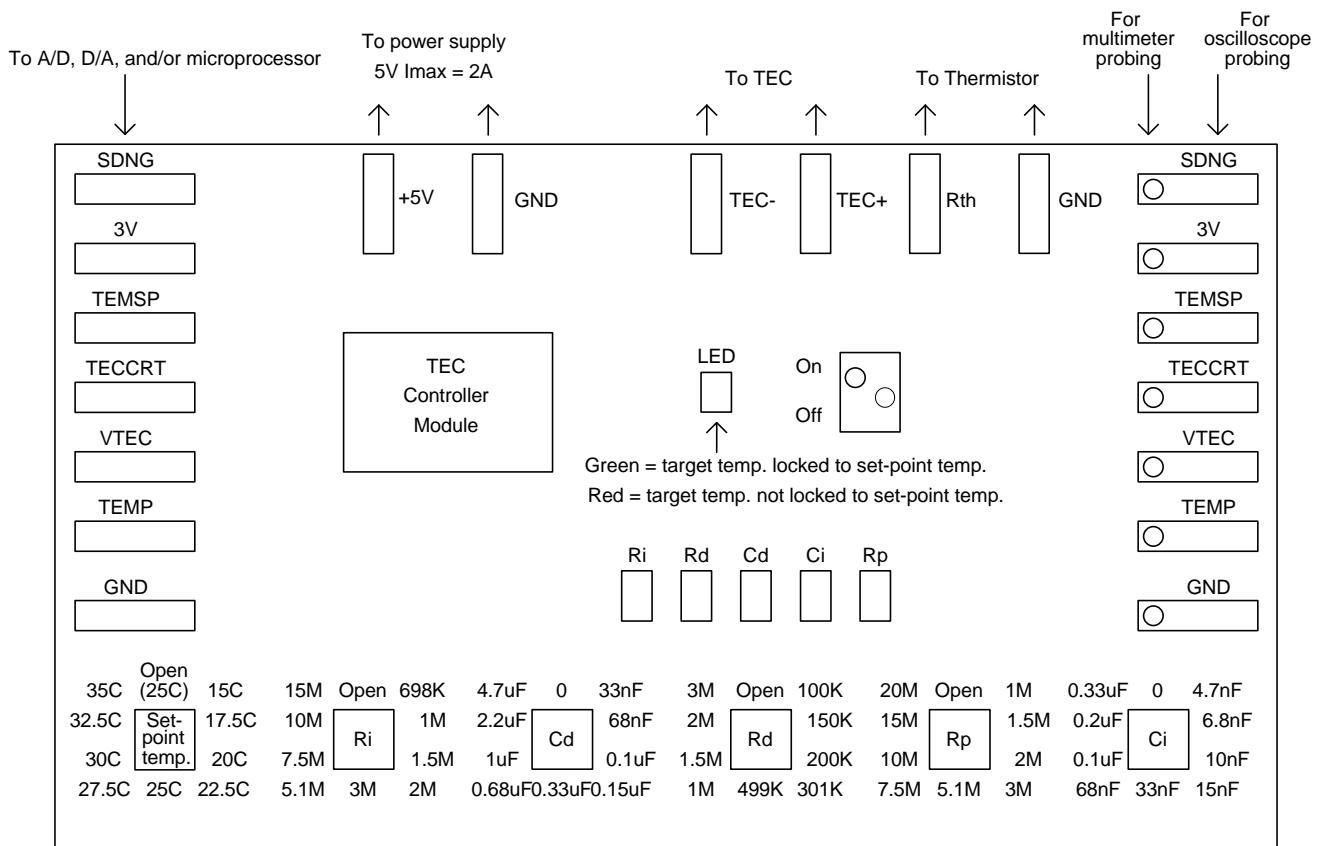

Figure 1 TEC Controller Evaluation Board TTV2
Figure 1 shows the layout of the evaluation board. After making the basic connections, the power supply, the TEC and the thermistor, to the board, you can see how controller works. Find a flat screw driver of right size, turn the temperature set-point switch **TEMPSP**, watch the LED: when it turns to green, the target temperature is locked to the set-point temperature within 0.1°C or less; when it turns to red, the target temperature is not locked to the set-point temperature.
b. To know the set-point temperature, use the voltage meter to measure the voltage between the **TEMPSP** and the **GND** pins, the reading result is: target temperature = $15^\circ\text{C} + (\text{TEMPSP voltage (V)}) * 6.67^\circ\text{C}$ for approximation.
c. To know the actual target temperature, use the voltage meter to measure the voltage between the **TEMP** and the **GND** pins, the reading result is: target temperature = $15^\circ\text{C} + (\text{TEMP voltage (V)}) * 6.67^\circ\text{C}$ for approximation (see the curve in the TEC controller data sheet).
d. To know how hard the TEC is working, measure the voltage **VTEC** by a voltage meter or an ADC, TEC voltage = $2.5\text{V} - \text{VTEC (V)}$. When the TEC voltage (from the calculation) is positive, it is in cooling mode; when the TEC voltage is negative, it is in heating mode.
e. To try other values not provided by the evaluation board for the components in the compensation network, turn the switches for the components you want to try to the top point (the "0" points for capacitors and the "Open" points for resistors), connect the component to the corresponding soldering pads located below the LED (See Figure 1).
To shut down the TEC controller, turn the switch located on the right side of the LEC down (See Figure 1).